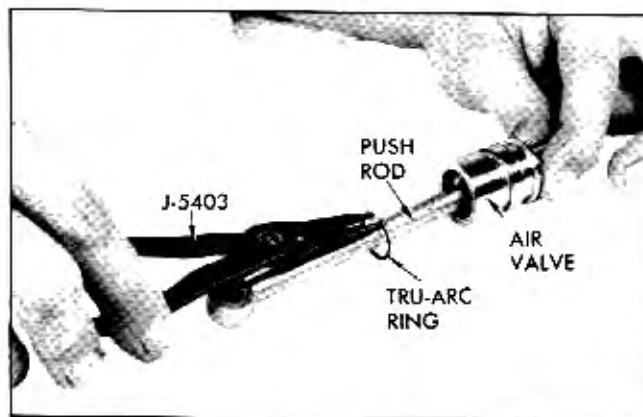

Fig. 5-55 Removing or Replacing Push Rod Snap Ring
5. It is not necessary to remove the push rod from air valve unless it is noisy or excessively loose. If necessary, follow steps 5 and 6. Unseat Truarc snap ring (using special pliers J-5403) that holds push rod in place (Fig. 5-55). (Pinch snap ring to release.)